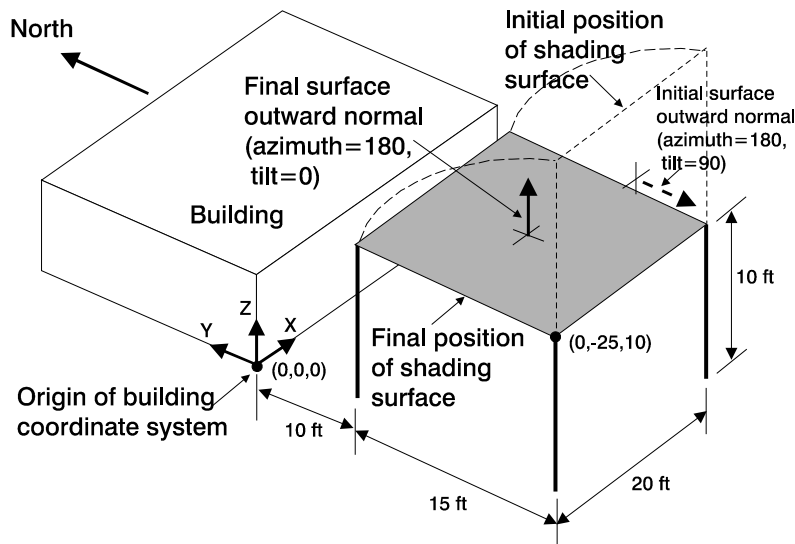

Figure 5 Positioning a shading surface in the building coordinate system
The following example places a shading surface near the building (see Figure 5). A horizontal shading surface (the roof of a carport) is located parallel to and 10 feet south of the building with its west edge aligned with the building's west side. The shading surface is 20 by 15 (long dimension is parallel to the building) and is 10 feet above the ground.
**X**, **Y**, and **Z** give the position of the lower left hand corner (when looking into the surface outward normal) in the building coordinate system. In Figure 5, **X**=0, **Y**=-25, and **Z**=10.
Angle between the y-axis of the building coordinate system and the projection of the shading surface outward normal onto the horizontal plane. To determine the azimuth for a horizontal shading surface, use the following procedure (see Figure 5):